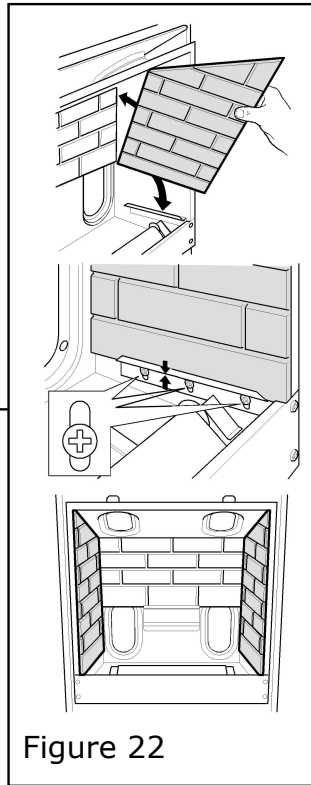

Figure 22
2. Locate the side walls in the channels at the sides of the firebox. If necessary, the side walls can be aligned with the rear wall by loosening the channel securing screws and adjusting the position of the channels. See figure 22.